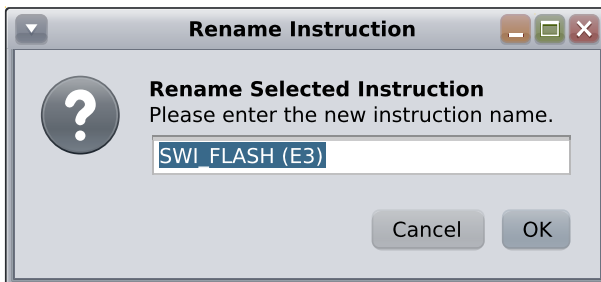

Figure 1.20: Dialog Rename Instruction
- A dialog (see [Figure 1.20 \[p 46\]](#)) is opened allowing the operator to enter a new name. When **OK** is clicked, the dialog is closed and the new name is set.